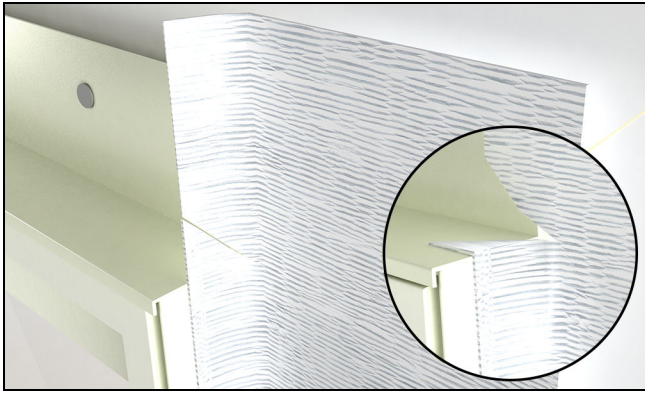

Figure 46
4. Lap vertical strips of adhesive flashing tape onto the unit and out over the WRB. Make small diagonal cuts at the head jamb as in Figure 46 to allow the membrane to fold back onto the exterior and frame.